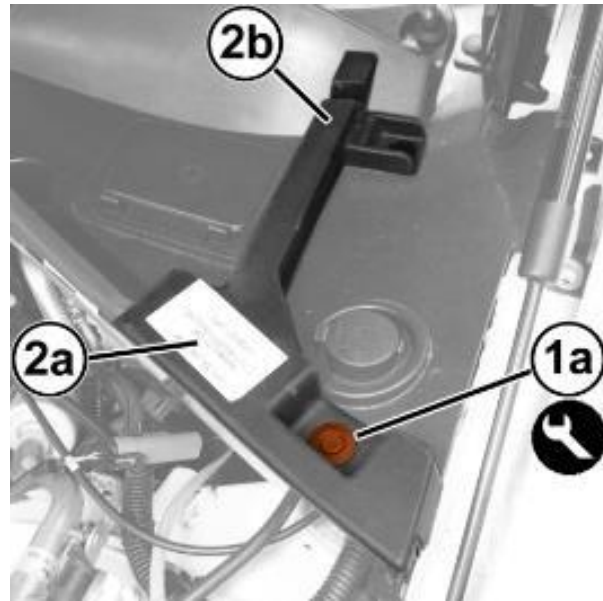

Figure 58 – Windshield Side Profile
48. Working on both sides of the windshield base trim, remove the retaining button (1a) after releasing its central pin using the appropriate tool Trim Stick C-4829A (1823015000) (Figure 58).
49. Lift and move the front (2a) of the side profiles (2b) out of the way, to access the mountings under the windshield trim (Figure 58).